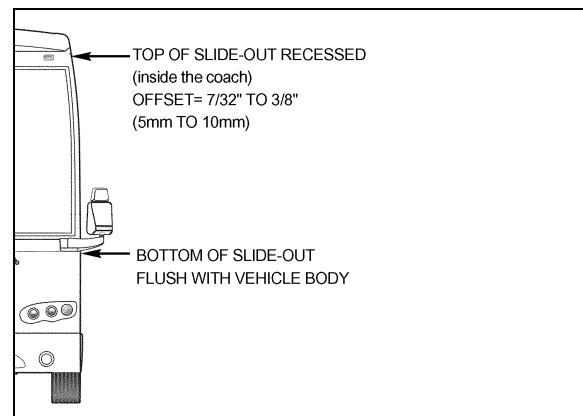

FIGURE 24: TILT ADJUSTMENT
5. Using levelling screw 3, adjust the tilt in order to have the top of the slide-out recessed between 5mm and 10mm (7/32” and 3/8”) (see FIGURE 24).